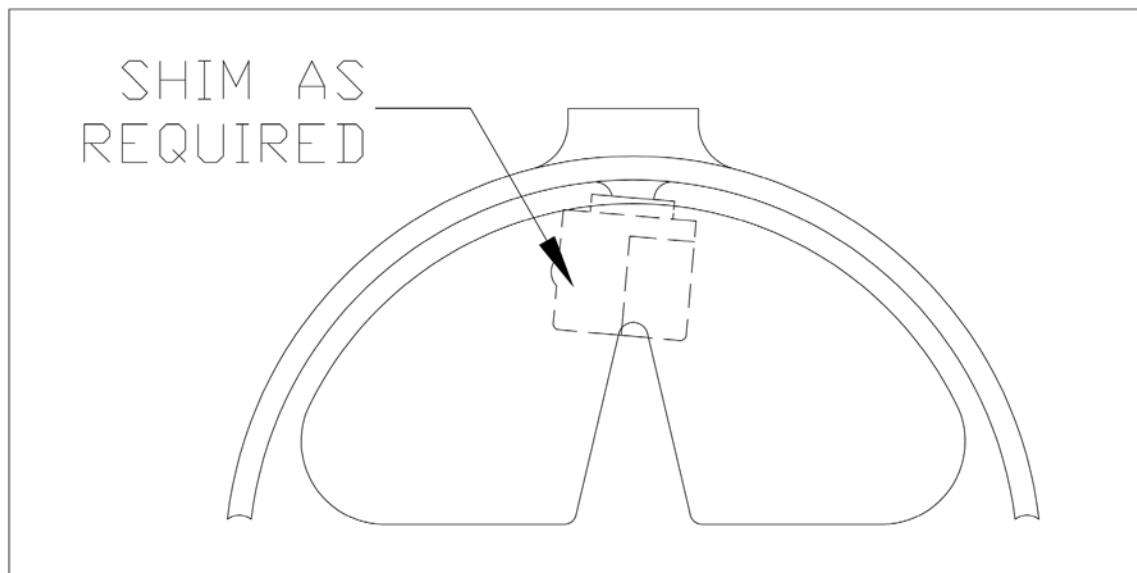

Figure 3: Placement of Shim(s) for Proper Clamping Action between Cover Plates of Reed Vibrator and Reed Holder
- 8-** If no clamping action as described in step 7 is experienced, place a shim on the end of the reed holder where the rear cover plate will bear. (see Figure 3). We normally use 1, 2, or 3 thicknesses of ordinary masking tape. If more than two thicknesses are required, the additional thicknesses should be divided evenly between the front and rear of the reed holder.